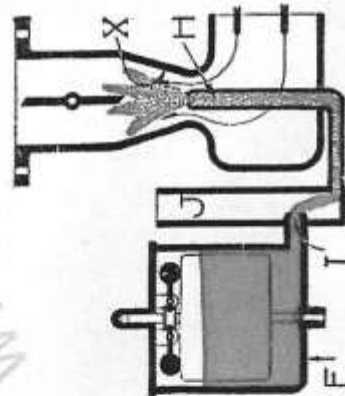

Fig. 2.
Look at Fig. 2. You will see that (I), representing the compensating jet, empties into the well (J), which is open to the air.
Number 6 is the compensating jet. Compare it with the view shown in Fig. 2. The jet here acts the same as (I) in Fig. 2, emptying into the well above it. This well is open to the air at Number 2.